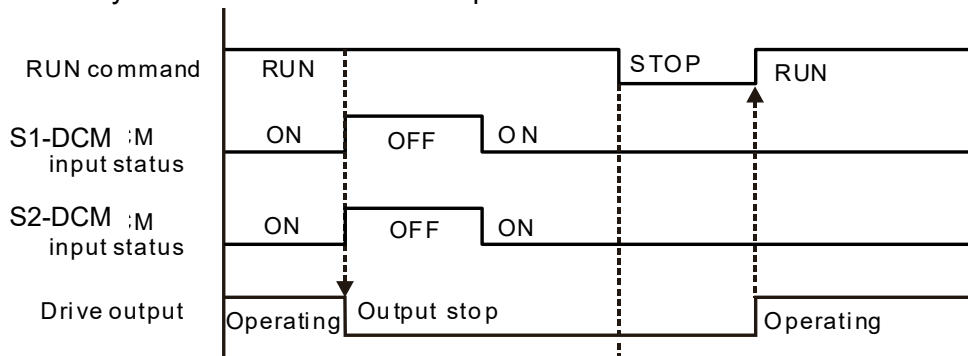

Figure 7
As shown in Figure 7: When both of S1-DCM and S2-DCM are OFF during operation (STO function is required), the drive will stop outputting. When the S1 / S2 status is restored (ON), the STO automatic alarm is automatically cleared. The drive can output when RUN command is released again.